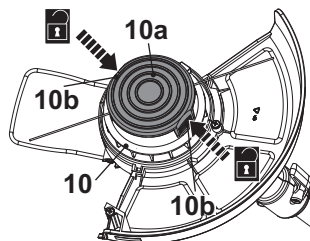

Fig. 16
2. Hold the trimmer head (10) steady with one hand. Press the release latches (10b) on both sides, then lift the cover (10a) and remove it (Fig. 16).